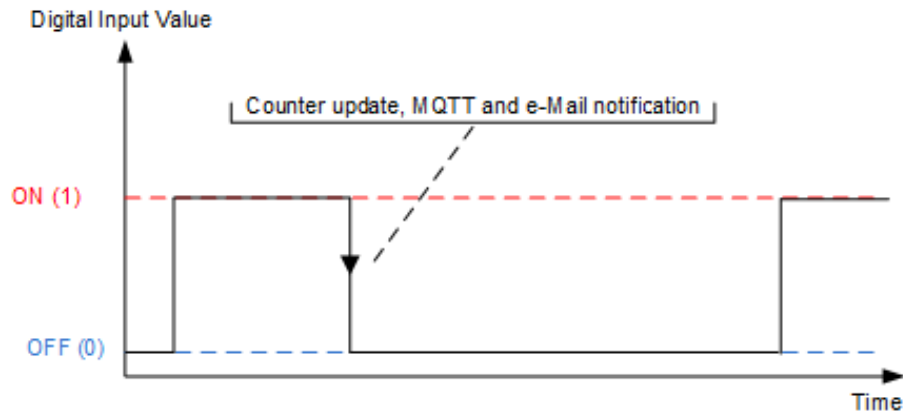

Figure 7.12. Counter update and notifications when **Edge** is set to "0 (Off)"
- **0 (Off)** – The counter is incremented on the falling edge (1 -> 0). With MQTT enabled and **MQTT Publish Mode=Edge Triggered** the falling edge triggers a notification message. The e-Mail (if enabled) is sent on falling edge (Fig. 7.12).